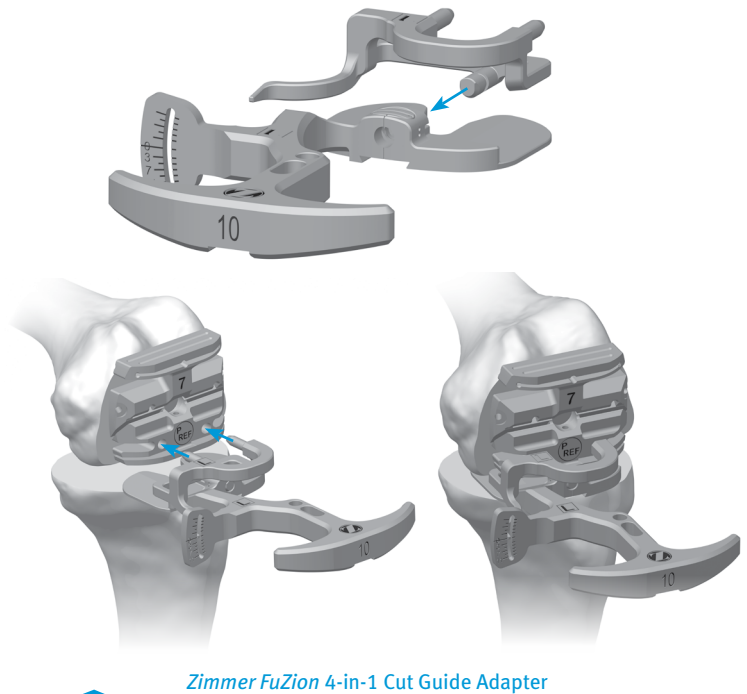

Fig. 39
- Prior to resection of the posterior condyles, attach the Zimmer FuZion 4-in-1 Cut Guide Adapter to the Zimmer FuZion Spacer Block and insert into the posterior holes of the Persona Posterior Referencing 4-in-1 Cut Guide (Fig. 39).